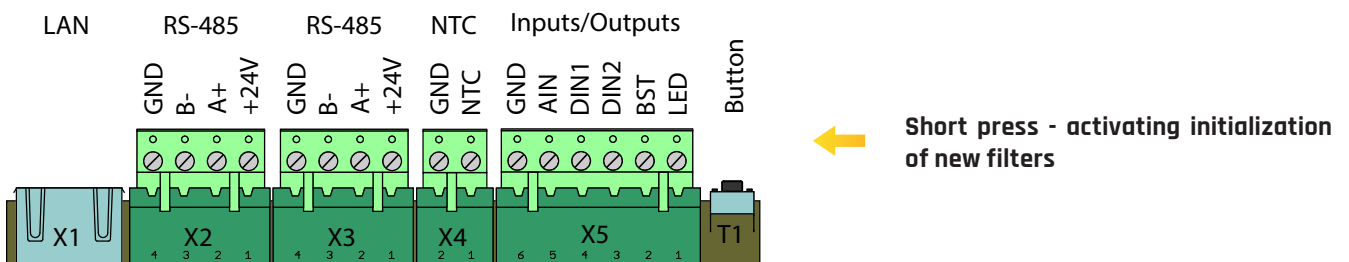

Fig. 4 - Button of initialization of new filters
- (1) Switch off the heat recovery unit with the On/Off button.
- (2) Remove the cover from the filter drawer and remove the filter out of the drawer.
- (3) Insert the new filter into the drawer and fit the cover onto it. Be sure to insert the filters correctly, observing the arrows indicating the air flow direction!
- (4) Switch on the heat recovery unit with the On/Off button.
- (5) Press the respective button on the control board (see page 5, fig. 4 - Button of initialization of new filters) or start filter replacement from the MyJABLOTRON application.